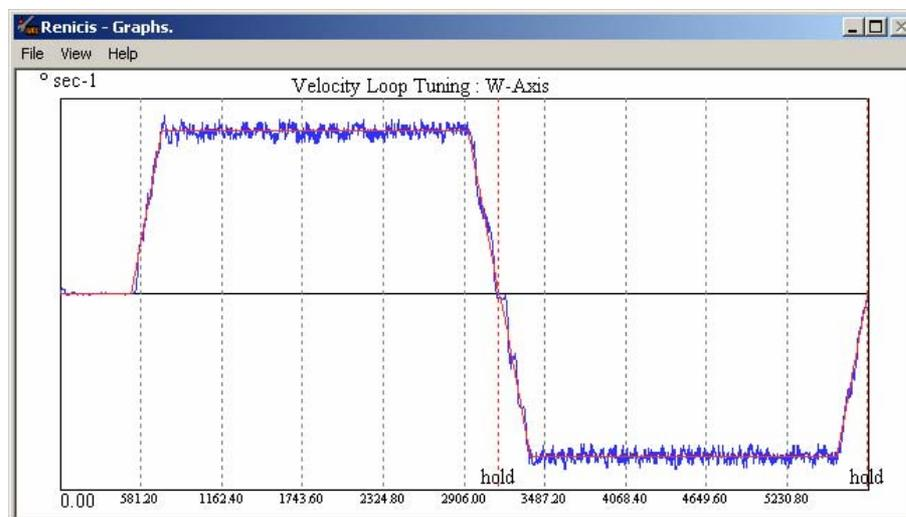

Figure 21
3. If the machine is stable, increasing the uncompensated gain by a further 10 – 20%. If the machine is displaying instability as for the Y axis in figure 21, increase the value of  $K_A$  (refer to step 2) in the unstable axes by a further 0.00005 (to do this follow step 2) and repeat the uncompensated gain test.